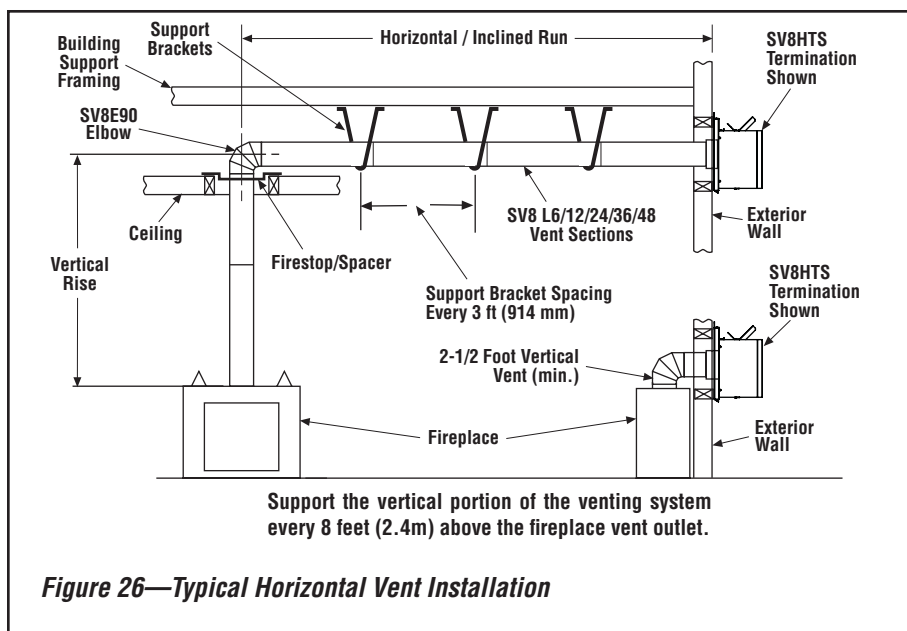

Figure 26—Typical Horizontal Vent Installation
G. Continue installation of horizontal/inclined sections—Continue with the installation of the straight vent sections in horizontal/inclined run as described in **Step C**. Install support straps every 3 ft (914 mm) along horizontal/inclined vent runs using conventional plumber's tape. **See Page 19, Figure 26. It is very important that the horizontal/inclined run be maintained in a straight (no dips), slightly elevated plane.** The recommended incline is approximately 1/4" per foot (20 mm per meter) horizontal, in a direction away from the fireplace. The rise per foot run ratios that are smaller are acceptable all the way down to at or near level. Use a carpenter's level to measure from a constant surface and adjust the support straps as necessary.
See **Figures 26–31** and their associated Horizontal Vent tables that illustrate the various horizontal venting configurations that are possible for use with these appliances. **Secure Vent®** pipe applications are shown in these Figures. A Horizontal Vent table summarizes each system's minimum and maximum vertical and horizontal length values that can be used to design and install the vent components in a variety of applications.
See **Figure 26**, *It is very important that the horizontal/inclined run be maintained in a straight (no dips), slightly elevated plane. The recommended incline is approximately 1/4" per foot (20 mm per meter) horizontal, in a direction away from the fireplace. The rise per foot run ratios that are smaller are acceptable all the way down to at or near level.*